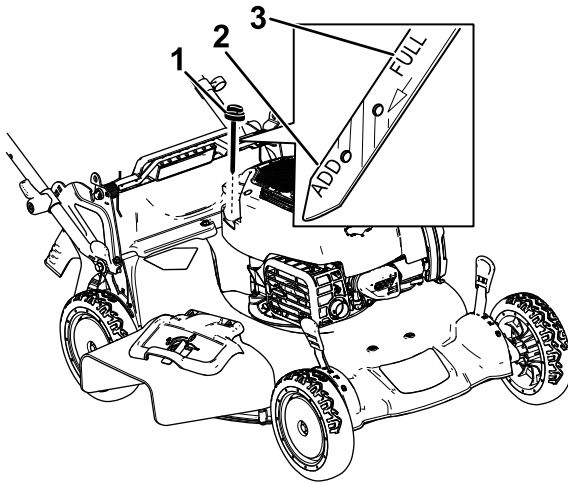

Figure 14
2. Remove the dipstick by rotating the cap counterclockwise and pulling it out (Figure 14).
5. Read the oil level on the dipstick (Figure 14).